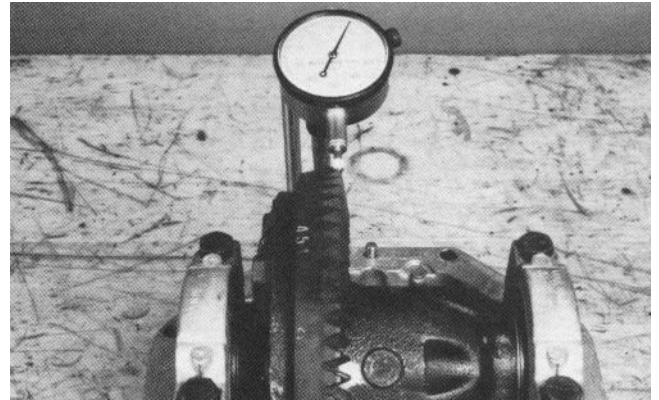

Figure 53
20. Using a dial indicator, check the ring gear backlash in three equally spaced points. Ring gear backlash should be .003-.007 inch (.076-.178 mm) and must not vary more than .002 in. between points checked (Fig. 53).